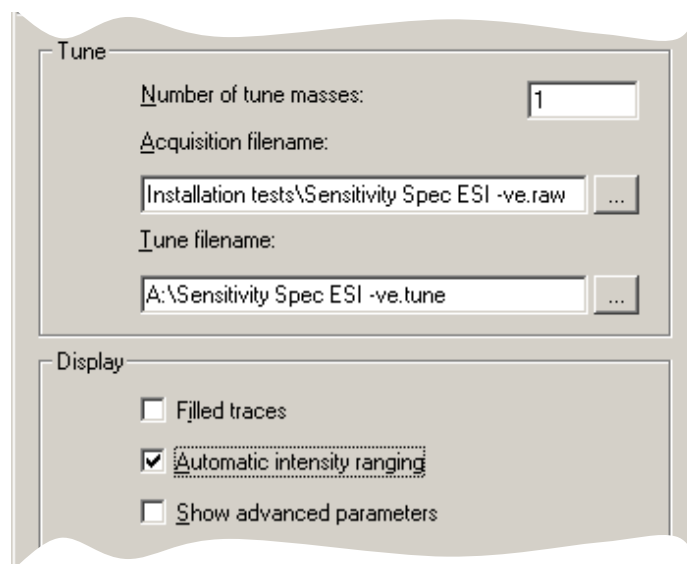

Figure 2-26. Tune Options window – APCI -ve
- Using the button to the right of “Acquisition filename,” browse through to **C:\Xcalibur\Installation\Installation tests** and type in: **Sensitivity Spec ESI -ve.raw** and check that the Tune filename is **A:\Sensitivity Spec ESI -ve.tune** (see Figure 2-26). Continue as before, but use the 0.2pg/μL p-Nitrophenol test sample.